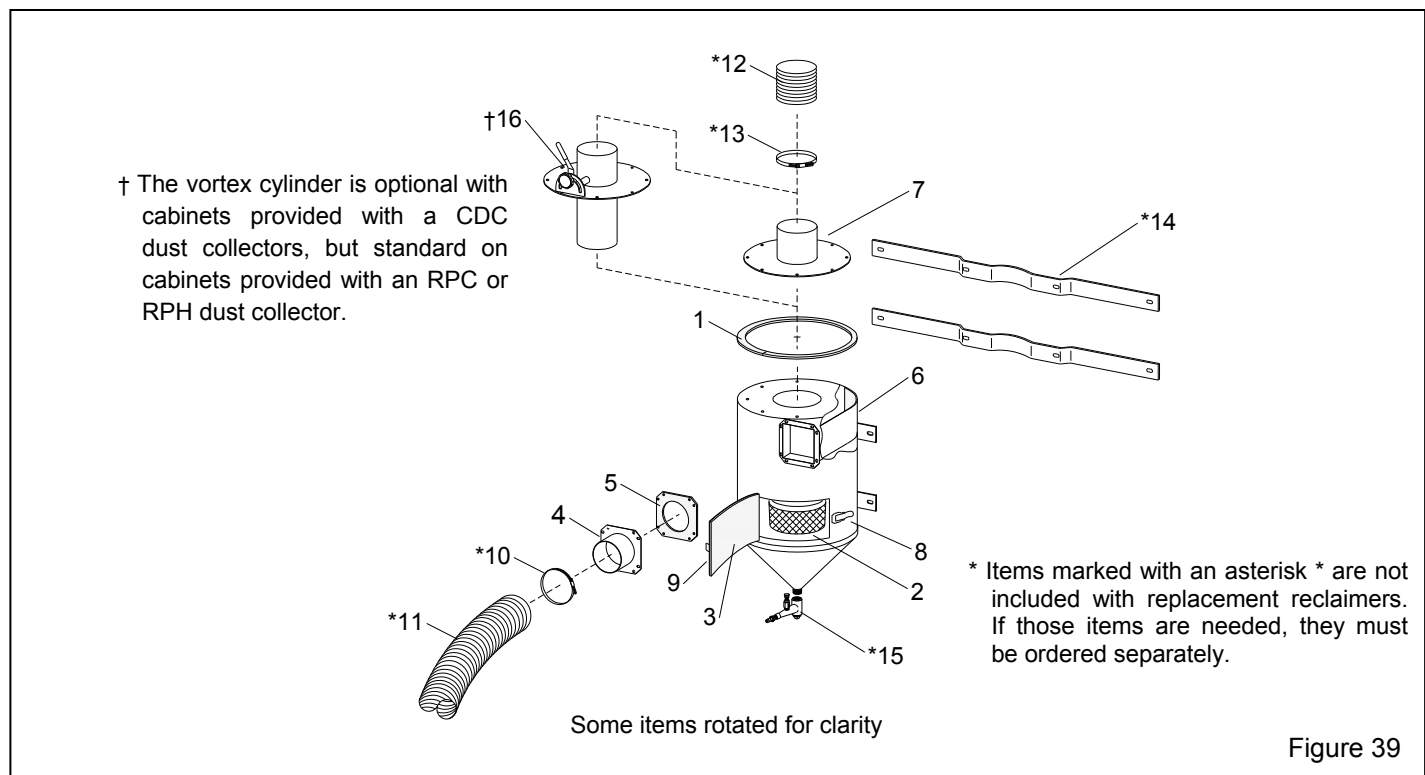

Figure 39
9.11 300 and 600 CFM Reclaimer Replacement Parts, Figure 39